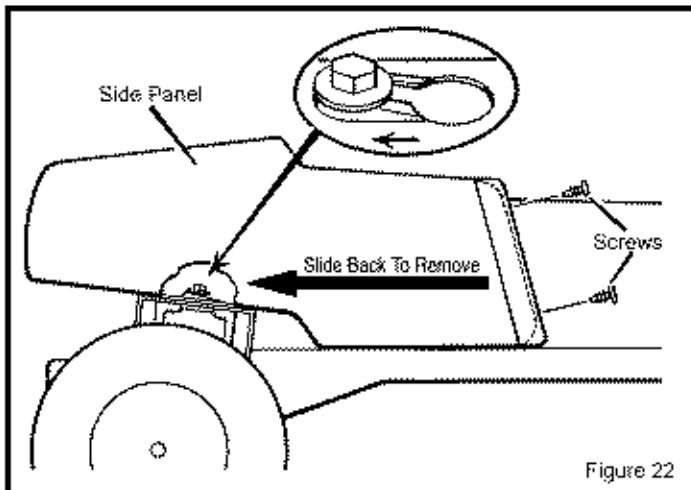

Figure 22
2. Remove the large **screws** that hold the front of the **side panel** (Figure 22).